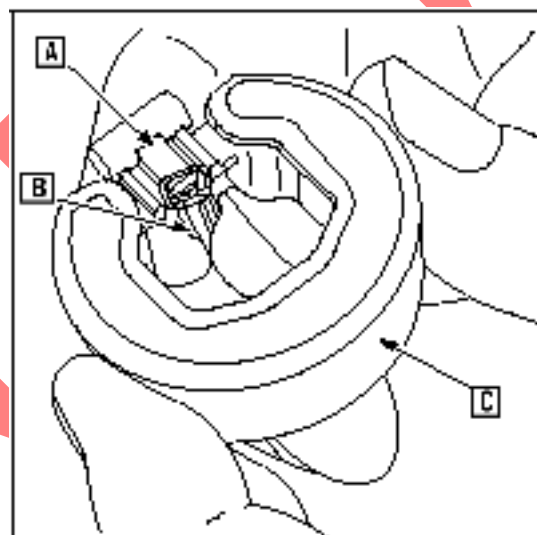

Fig. 89
Slide fuel needle valve assembly (A) on to tab (B) of float ([C] Fig. 89).